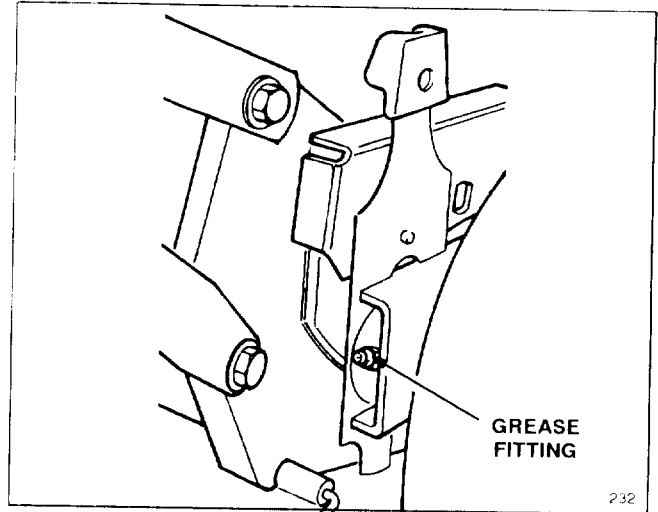

Figure 28
1. Move rear wheel height-of-cut levers to center setting. Wipe grease fittings with clean rag (Fig. 28). Install grease gun onto fitting and gently apply 2 or 3